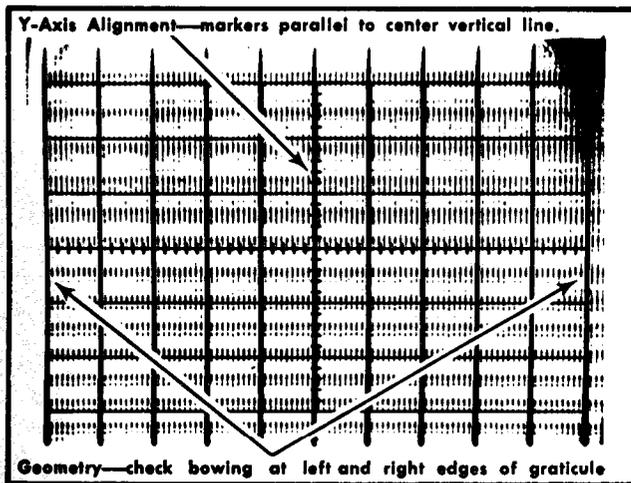

Fig. 5-1. Typical CRT display showing good geometry and Y-axis alignment.
- b. CHECK-Markers parallel to the center vertical line within 0.1 division (see Fig. 5-1).
- d. CHECK-Bowing and tilt of markers over entire display area 0.1 division or less (see Fig. 5-1).